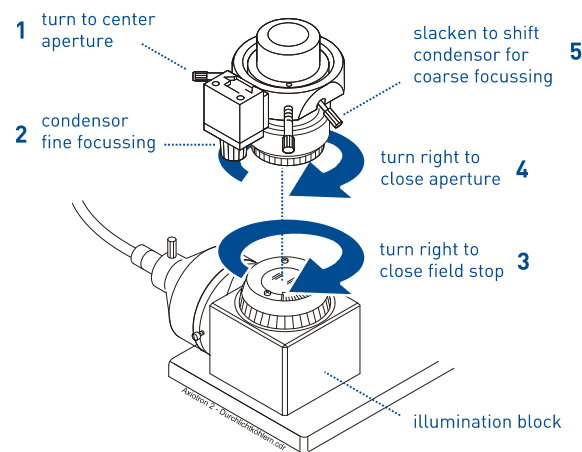

figure 35 Components that are involved in transmitted-light Köhler illumination
- *Close the field stop* (3 in figure 35) by rotating the plastic ring clockwise
- In the eyepieces, a dimly lit circle should be visible. This is the back-illuminated field stop for transmitted light, which is located in the square illuminator block shown in figure 35. If it is not visible, gradually increase the light intensity. If still nothing can be seen, check if there is an opaque sample on the stage that blocks the light. Also check that the eyepieces are activated (which may be an issue if a CSM is installed).
- By turning the knurled screw of the condensor holder (2 in figure 35), move it up and down and try to adjust a sharp image of the field stop. If the focussing range is not sufficient, set the fine focussing screw to about half the travelling range, slacken the set screw (5 in figure 35), shift the entire condensor assembly and bring it (almost) in focus. Fine-adjustment is done with the focussing screws afterwards. When shifting the condensor, avoid to touch the sample stage insert or the sample itself with the condensor optics from below.
- Using the centring screws (1 in figure 35), bring the field stop to a position which is concentric to the eyepiece's field of view.
- With the aperture ring (4 in figure 35), a good trade-off between image contrast and resolution can be achieved.